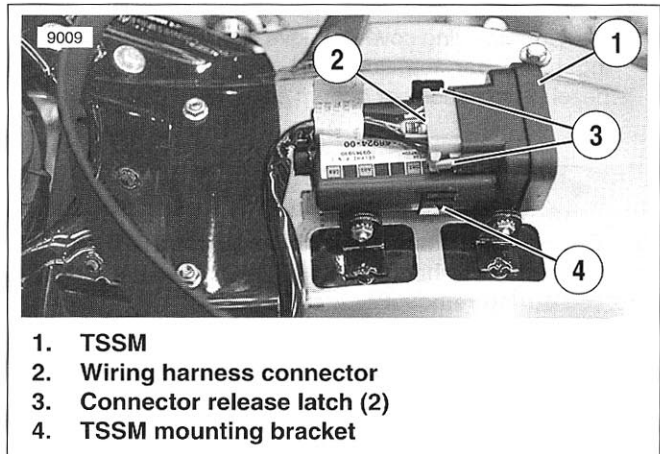

Figure 8-30. Turn Signal Security Module Mounting
5. See Figure 8-30. Squeeze wiring harness connector release latches (3) and carefully pull wiring harness connector (2) out of connector socket on TSSM (1).
6. Lift up TSSM and slide it out of mounting bracket (4).